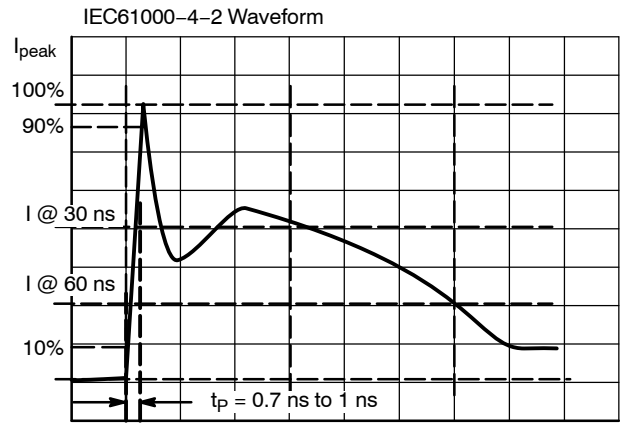

Figure 26. IEC61000-4-2 Spec
- For test procedures see Figures 26 and 27: IEC61000-4-2 spec, diagram of ESD test setup and Application Note AND8307/D.